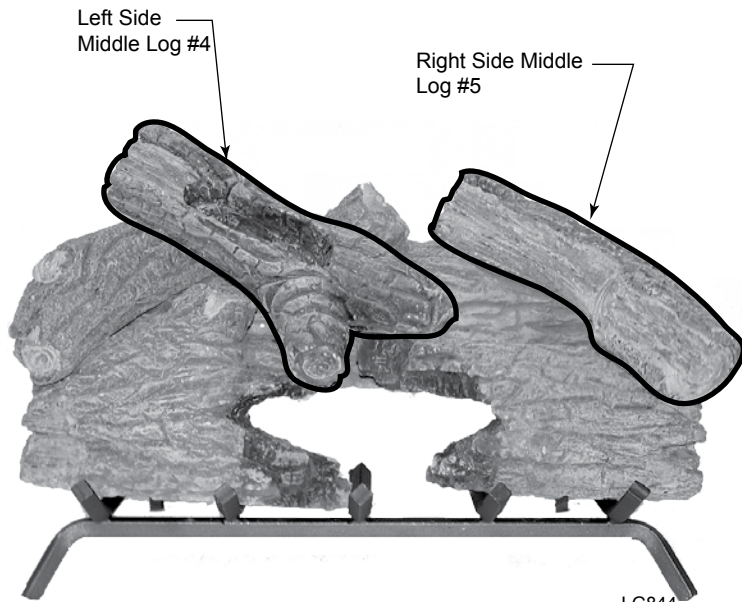

Figure 26 - Place Right Side Middle Log and Left Top Log
- 6. Place right side middle log #5 as shown. *Figure 26*
- 7. Place left top log #7 as shown. *Figure 26*